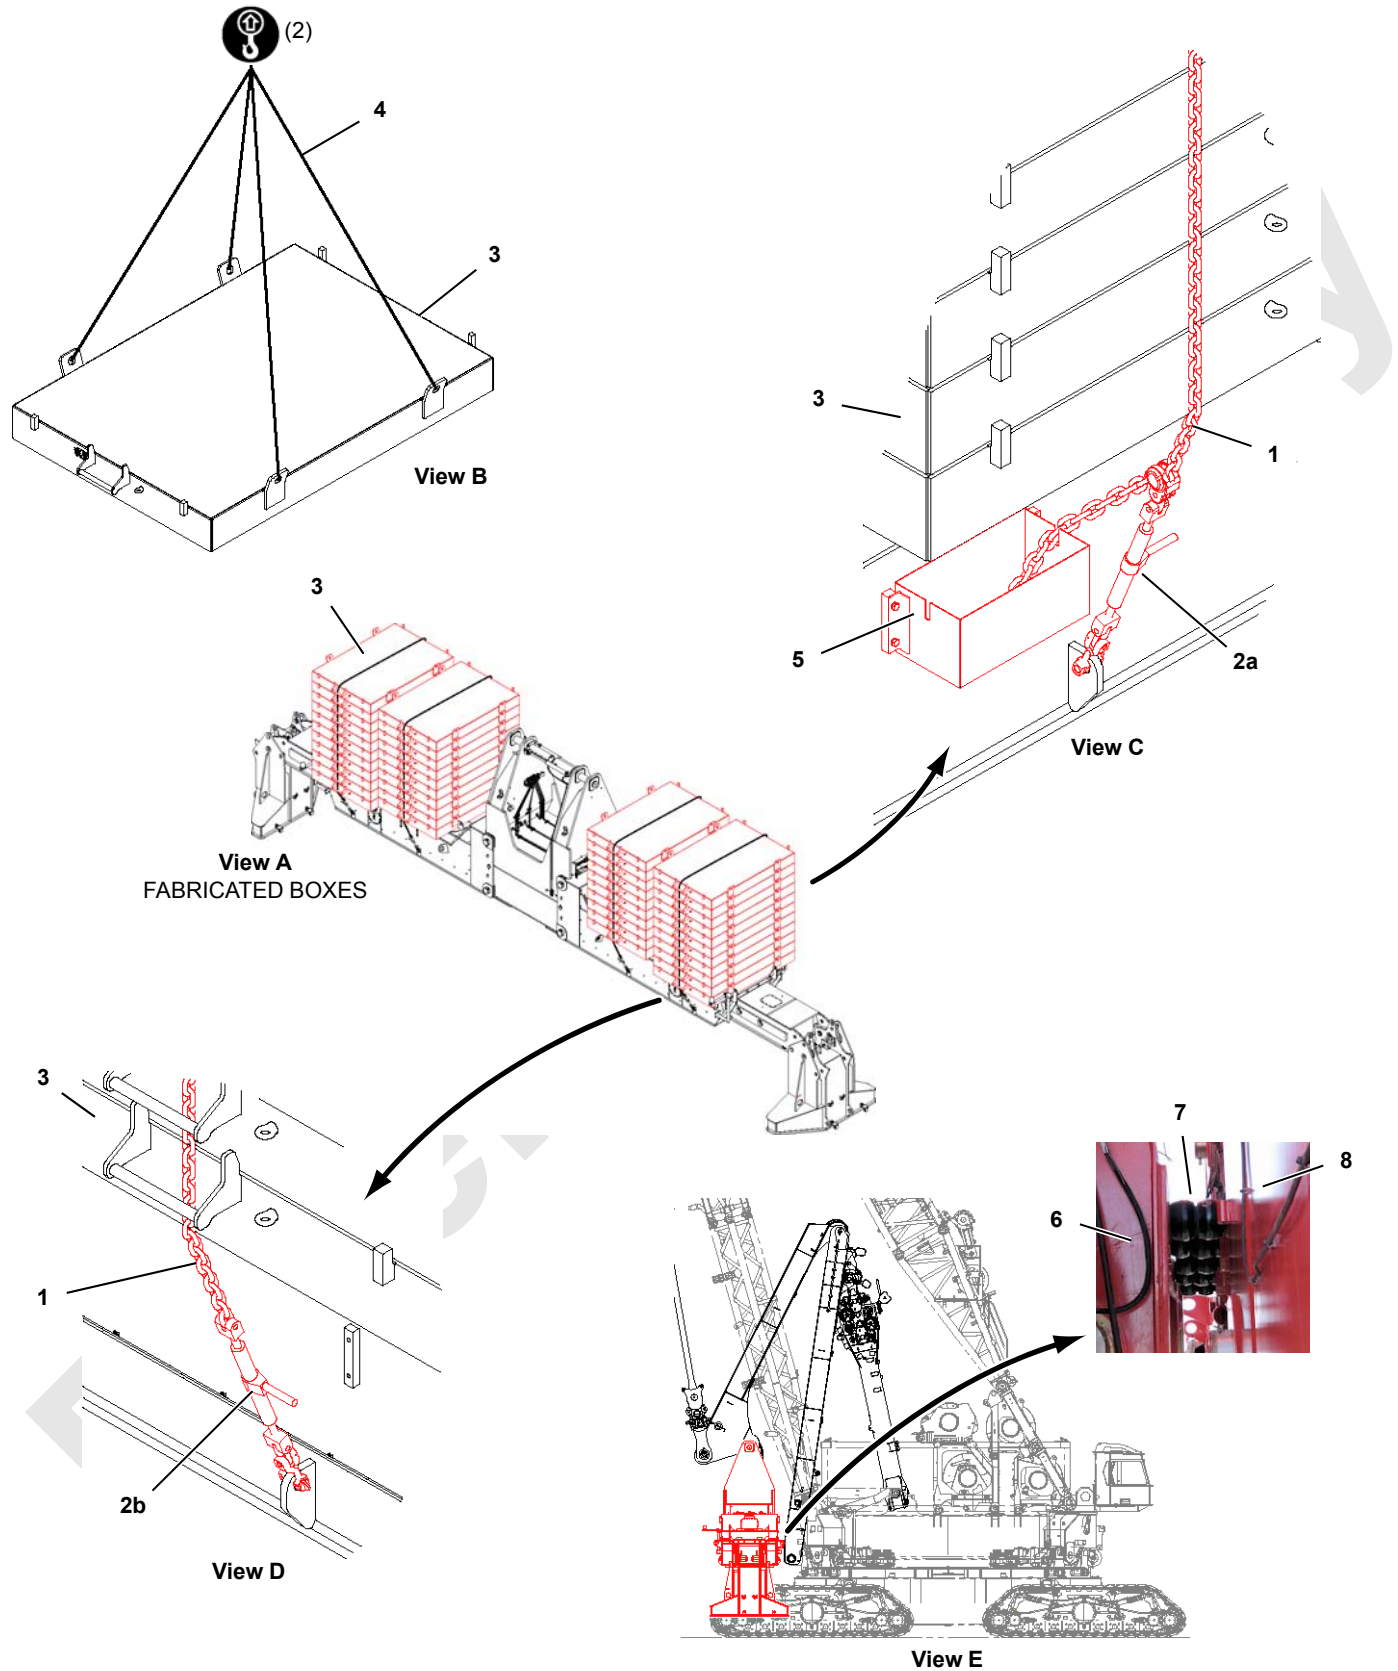

FIGURE 5-60
Legend for Figure 5-60
- VPC actuator must remain fully retracted until all counterweight boxes are removed. Rubber bumpers (6, Figure 5-60, View B) on center tray (7) must be snug against pivot frame (8) on rear of crane.
- Do not lift more than one fabricated box (Figure 5-60, View B) at a time. Lifting lugs may break allowing box(es) to fall.
See Figure 5-60 for the following steps.